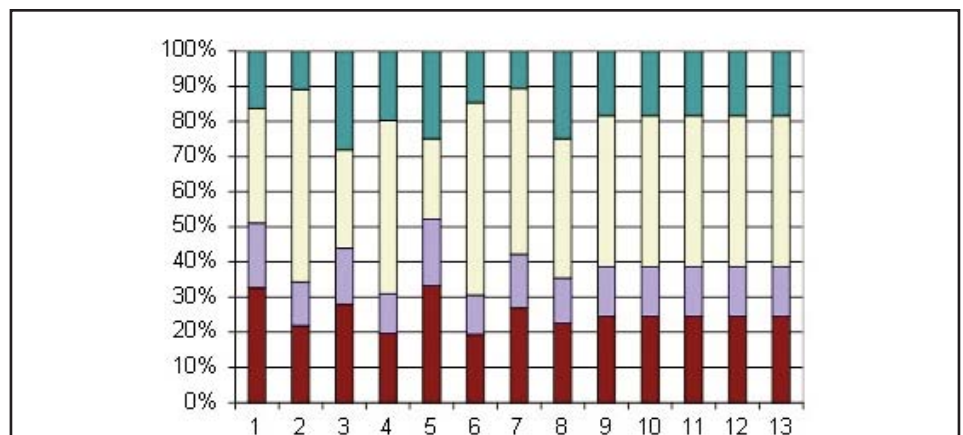

Figure 2: Ingredients recalculated by percentage
Unfortunately, because the total amount going into the reactor is changing, the proportions of the other ingredients (C) and polymer (D) also vary: They really are not fixed as first thought. This becomes obvious by re-drawing the bar chart in terms of the percentages of materials—see Figure 2 (on page 3). The ingredient ranges are: